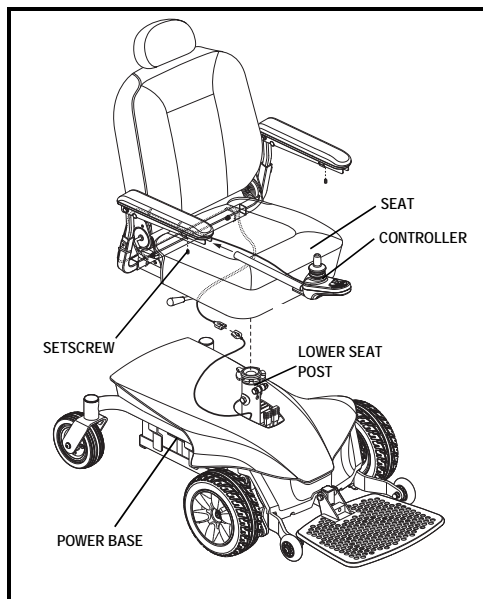

Figure 10. Seat and Controller Assembly
1. Adjust the upper seat post to the desired position and insert the bolt through the seat post and secure with the nut. **See figure 10.**
2. Slide the seat down onto the upper seat post. **See figure 10.**
3. Install the controller into one of the armrests. Tighten the setscrew with the supplied hex key. **See figure 10.**
4. Lift the armrest straight up, then route the controller harness and secure with wire ties as shown in **figures 10 and 11.**